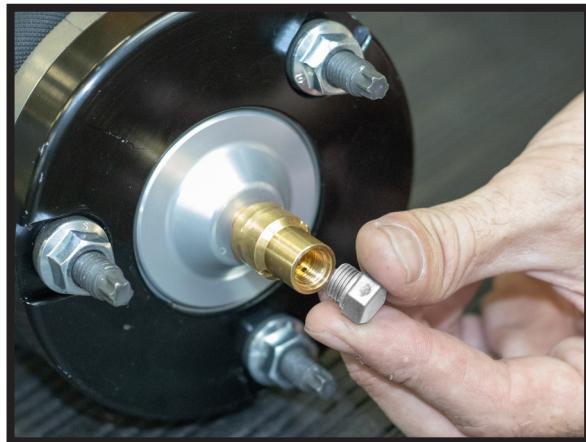

FIGURE 1
1. REMOVE THE SHIPPING PLUG FROM THE CHECK VALVE. (FIGURE 1)